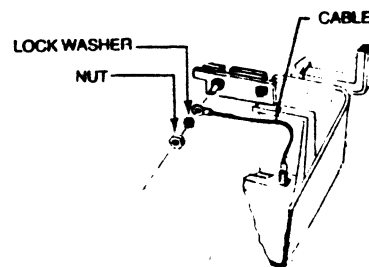

Figure 2
2. Attach ground cable (location: inside right rear of printer) by faston connection on one end and using lockwasher and nut on other end as shown (see Figure 2).